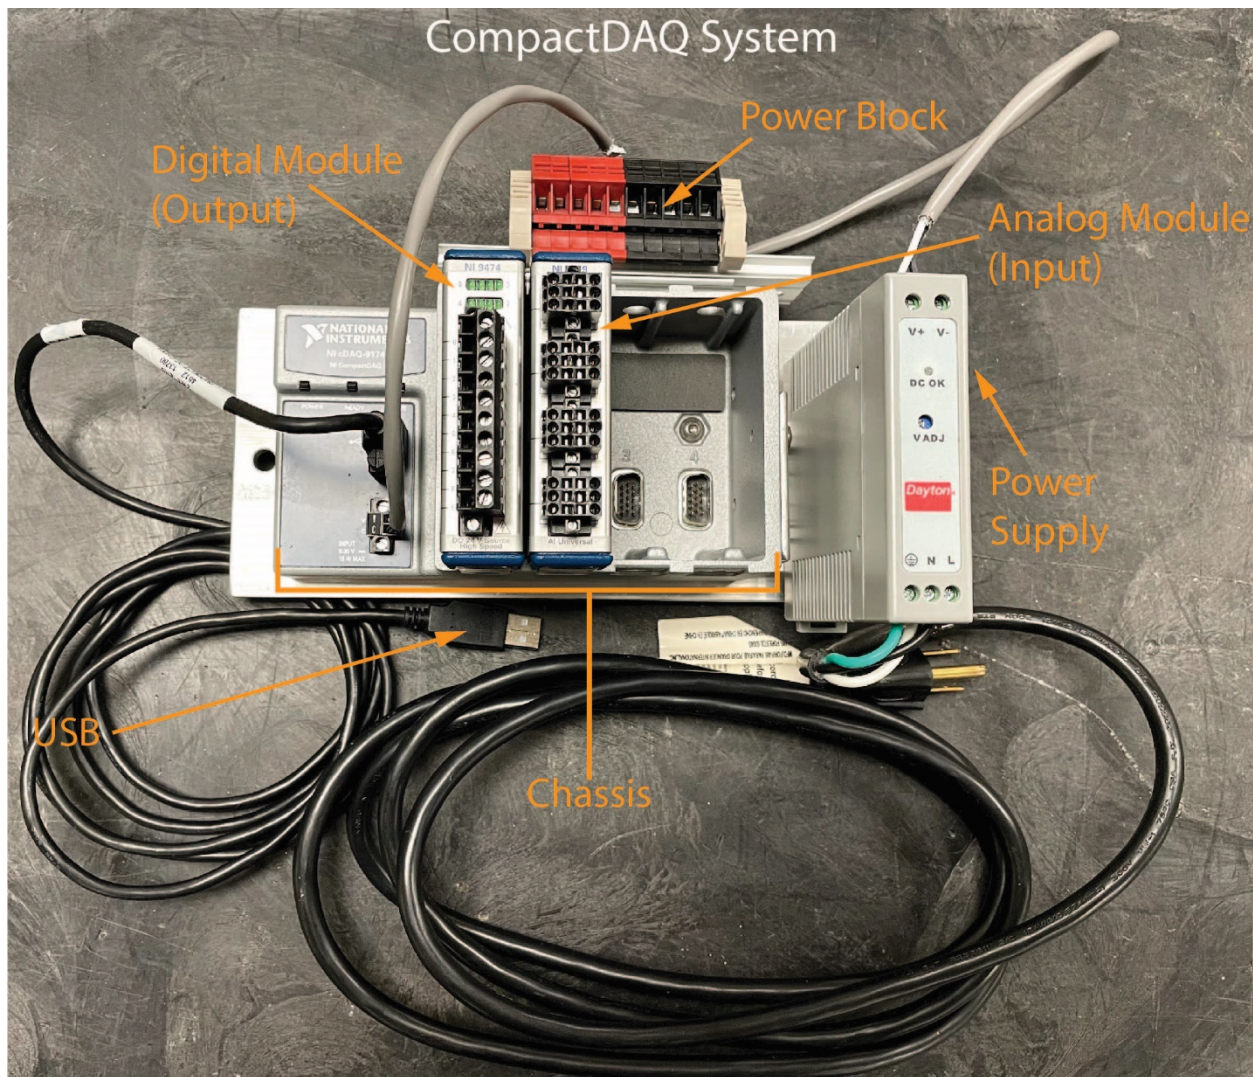

Figure 2 Data Acquisition System
National Instruments has several data acquisition devices. The system used in this lab is pictured in Figure 2. It consists of a *chassis* into which *modules* can be placed, a power supply, a power block, and a USB connection. This model of chassis has spaces for up to four modules. Only two modules have been installed in the chassis as pictured. The Digital Module on the left provides output signals to turn something on or off. A total of 8 possible on/off devices can be wired through this particular Digital Module. In technical jargon, this module has 8 *channels*. The
1. Obtain a CompactDAQ system (like one pictured in Figure 2) from the lab manager if one is not already supplied.